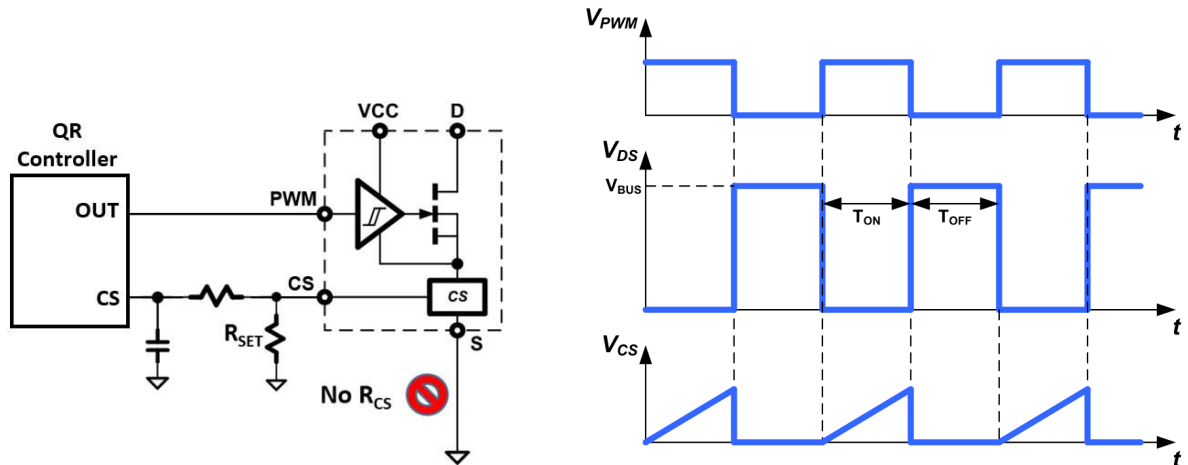

Fig. 26. Current sensing circuit and timing diagram
For many applications it is necessary to sense the cycle-by-cycle current flowing through the power FET. Existing current sensing solutions include placing a current sensing resistor in between the source of the power FET and P_{GND}. This resistor method increases system conduction power losses, creates a hotspot on the PCB, and lowers overall system efficiency. To eliminate this external resistor and hotspot, and increase system efficiency, this IC includes GaNSense™ Technology for integrated and accurate loss-less current sensing. The current flowing through the internal GaN power FET is sensed internally and then converted to a current at the current sensing output pin (CS). An external resistor (R_{SET}) is connected from the CS pin to the S_{GND} pin and is used to set the amplitude of the CS pin voltage signal (Fig. 26). This allows for the CS pin signal to be programmed to work with different controllers with different current sensing input thresholds.